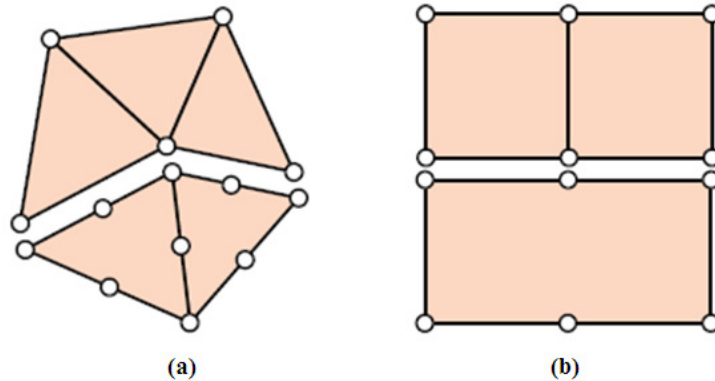

Figure Q2B
- (vi) Figure Q2B shows two examples of a poor mesh. In each instance state why the mesh is not appropriate. [4]